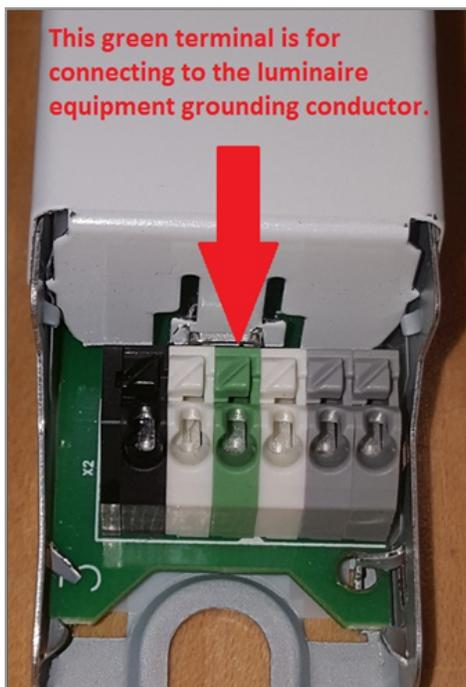

Figure 10. BSL6ST Green Terminal for Equipment Ground
- b. Some Bodine emergency drivers come equipped with a green terminal on their integral leadless connectors for the equipment ground (e.g., BSL6LST). This terminal should be connected to the equipment grounding conductor for the luminaire. See Figure 10 for an example.